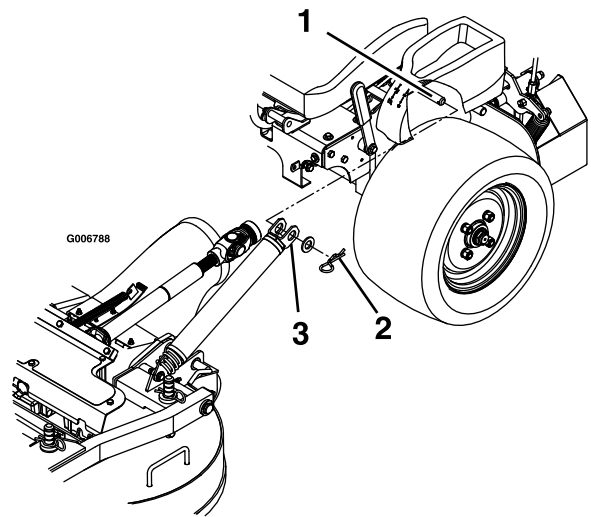

Figure 77
4. Remove the hairpin cotters and washers at the top of the deck-lift-assist spring on each side of the machine (Figure 77).
10. Install the springs onto the spring anchor pins under the left and right consoles and secure it with a washer and hairpin cotter (Figure 77).